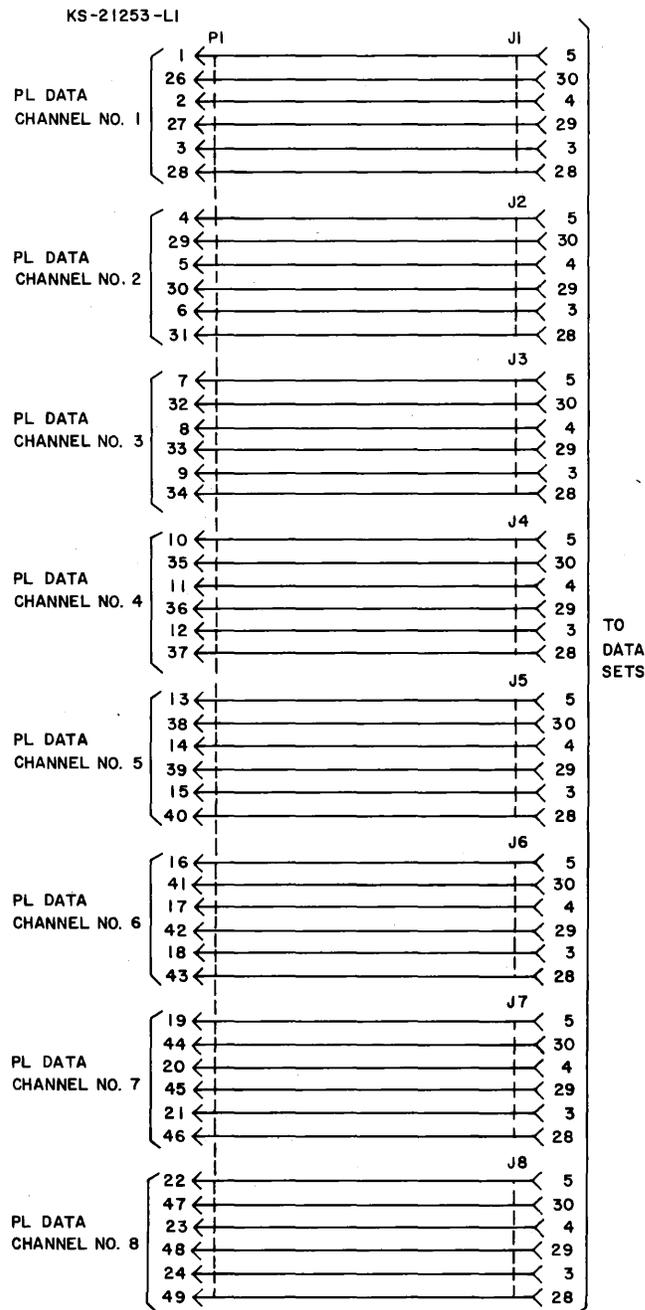

Fig. 11—Adapter for Fanout of Connected Channel Interfaces Into Eight 50-Pin Connectors
**4.14** When several CIUs are located at the same station, it may be desirable to concentrate the 6-lead channel interfaces into a single 50-pin plug. This is done in order to run only an A- or B-type cable the required distance to the modems. The KS-21253-L2 adapter contains eight 50-pin connectors and one 50-pin plug. Up to eight B25A cables from individual CIUs can be plugged into the adapter. The concentrated channel interface leads are then available in a single 50-pin plug (Fig. 11).